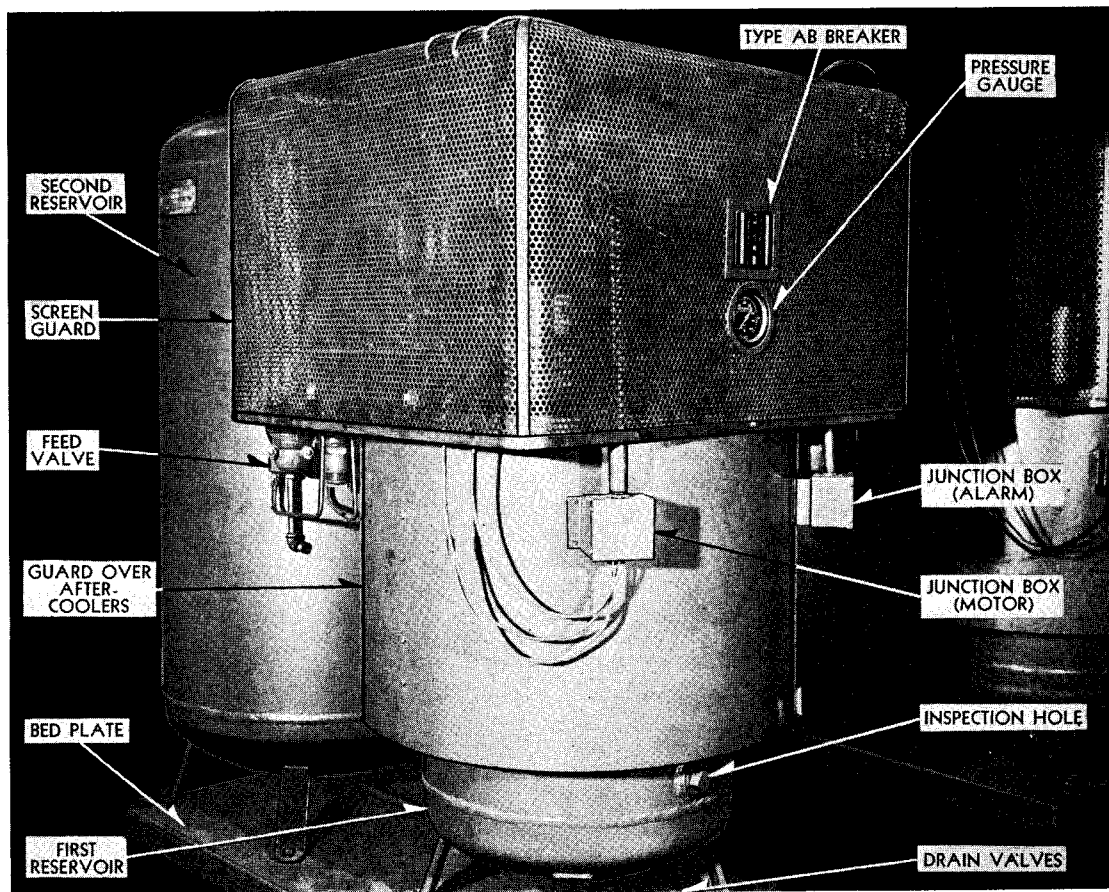

FIG. 1—COMPRESSED AIR SUPPLY UNIT WITH SINGLE COMPRESSOR
- Fig. 1. Compressed Air Supply Unit with Single Compressor.
The single compressor unit with one compressor mounted on the smaller of the two reservoirs as shown in Fig. 1, is normally supplied for installations of more than two breakers and for small applications where future additions are contemplated. To insure uninterrupted service, it is recommended that a spare unit be installed for use during inspection and maintenance periods or other
**Feed Valve**—The air supply unit feeds air into the delivery system through a pressure reducing valve located at the outlet of the second (larger) reservoir as shown in Fig. 1. The valve supplied is a slightly modified design of the Westinghouse Air Brake Company, Type M-3 feed valve, established through long service in railway and industrial service.